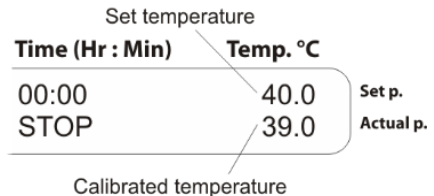

Figure 5. Control panel in operation mode after calibration
6.4.8. The display will show calibrated temperature as shown on fig. 5/1 and the unit will continue thermal stabilization according to the previously set temperature.